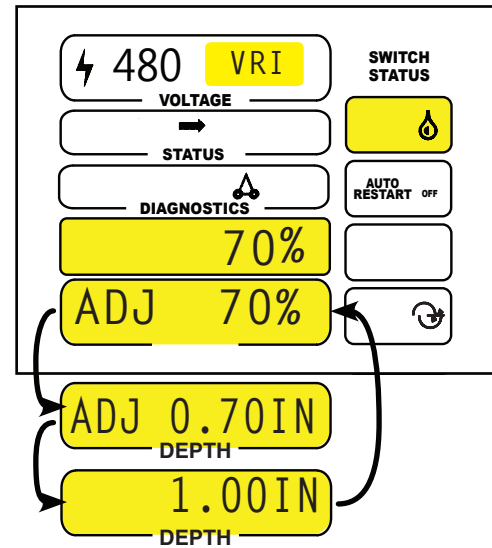

Figure 12-1
- VRI is shown in the voltage display when water is set to on and a VRI-S prescription is enabled (on). See figure 12-1.
- The water application display cycles between ADJ %, ADJ Depth and set Depth when water is set to on and a VRI-S prescription is enabled (on). See figure 12-1.